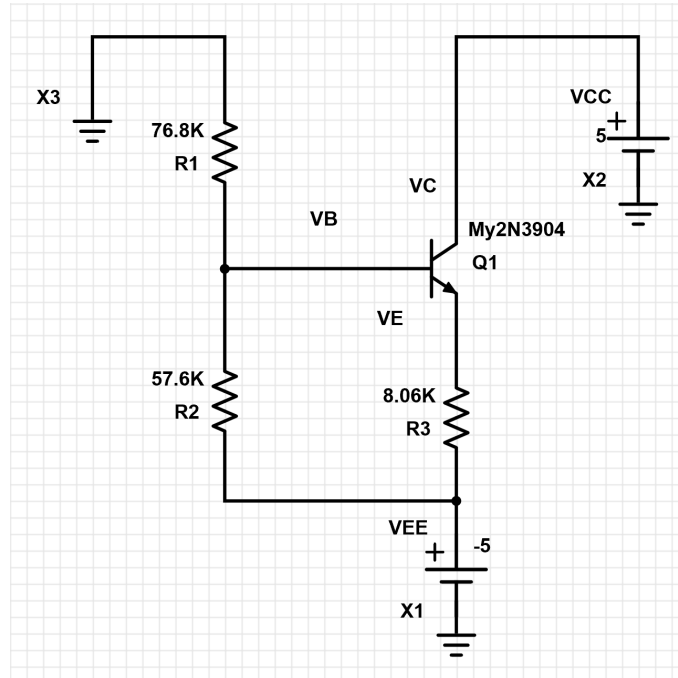
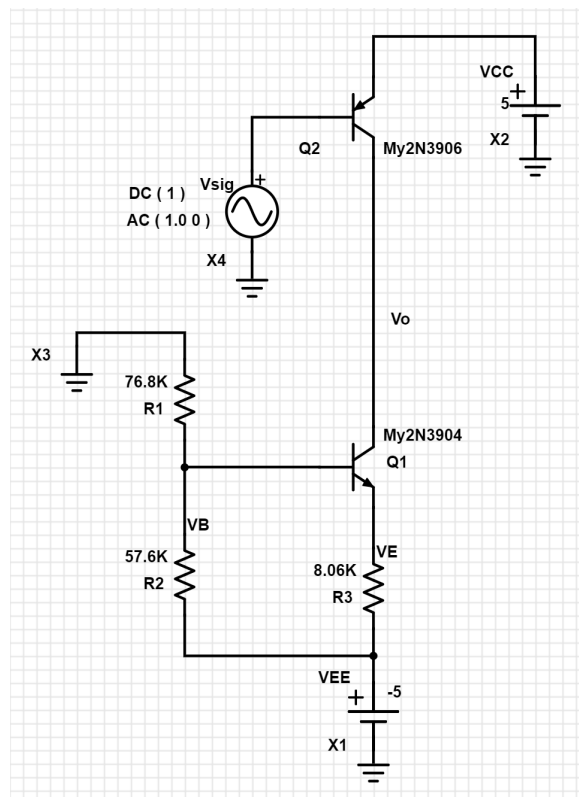
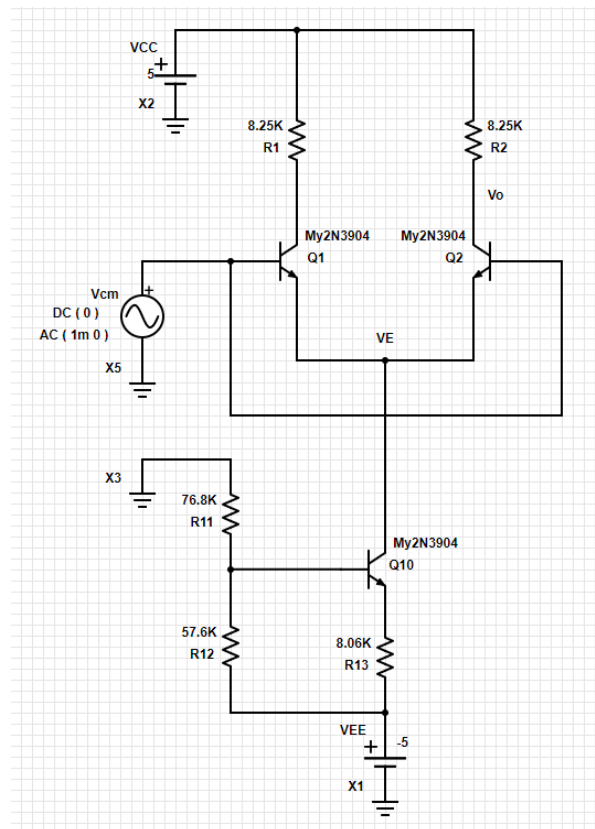

Fig. 1 The schematic diagram for the constant current sink
Fig. 2 Schematic diagram of the common emitter (CE) amplifier
Fig. 4 Schematic diagram of the differential amplifier for common-mode analysis
- 1.1 To characterize the output resistance of a current sink, construct the current sink in PartSim (or LTspice) with resistance values and supply voltages, as shown in Fig. 1.
- 1.4 Construct the CE amplifier, as shown in Fig. 2, using a PNP-BJT 2N3906 and the current sink that we characterized in Fig. 1. Here V_{sig} provides the required DC bias for Q_2 and the AC signal applied to the CE amplifier.
- 1.9 Based on Fig. 1, construct the measurement setup for the constant current sink. Use Wavegen 1 (W1) for VCC and V- for VEE. Connect Scope Ch. 1 Positive (1+) to V_B (the base of Q1) and Scope Ch. 2 Positive (2+) to V_E (the emitter of Q1). Connect GNDV+, GNDV-, Scope Ch. 1 Negative (1-), and Scope Ch. 2 Negative (2-) to a common ground
- 1.14 Based on Fig. 2, construct the measurement setup for the common-emitter (CE) amplifier. Use $V_+ = 5V$ for V_{CC} , $V_- = -5V$ for V_{EE} , and Wavegen 1 (W1) for V_{sig} . Connect GNDV+, GNDV-, and GNDW1 to a common ground line.
- 2.1 Construct the differential amplifier, as shown in Fig. 4, using two NPN-BJT 2N3904, two 8.25 k Ω resistors, and the current sink characterized in Fig. 1. We first analyze its characteristics for DC common-mode signal V_{CM} , followed by the AC common-mode signal v_{cm} . Here the source V_{cm} in Fig. 4 provides both V_{CM} and v_{cm} to the differential amplifier.
- 2.4 Based on Fig. 4, construct the measurement setup for the differential amplifier. Use $V_+ = 5V$ for V_{CC} , $V_- = -5V$ for V_{EE} , and Wavegen 1 (W1) for V_{cm} . Connect GNDV+, GNDV-, and GNDW1 to a common ground line.